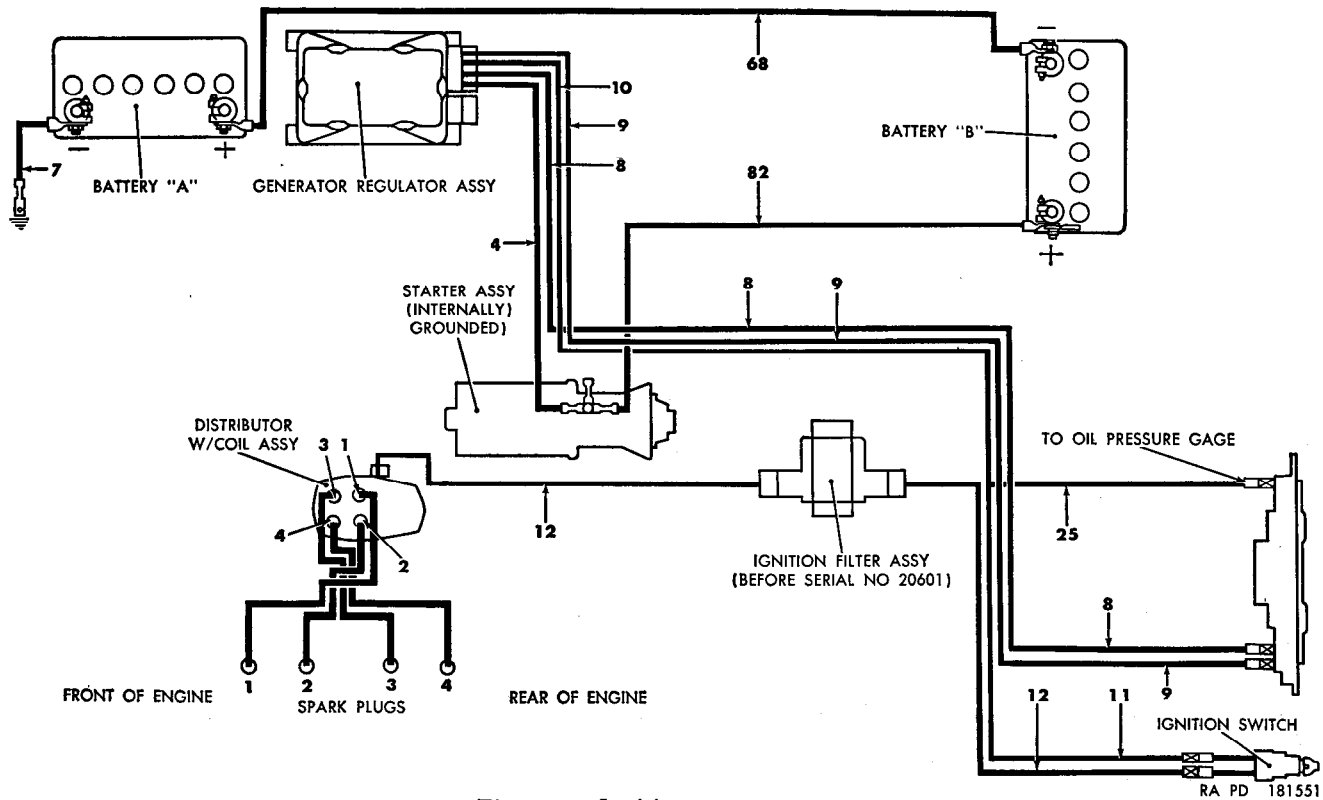
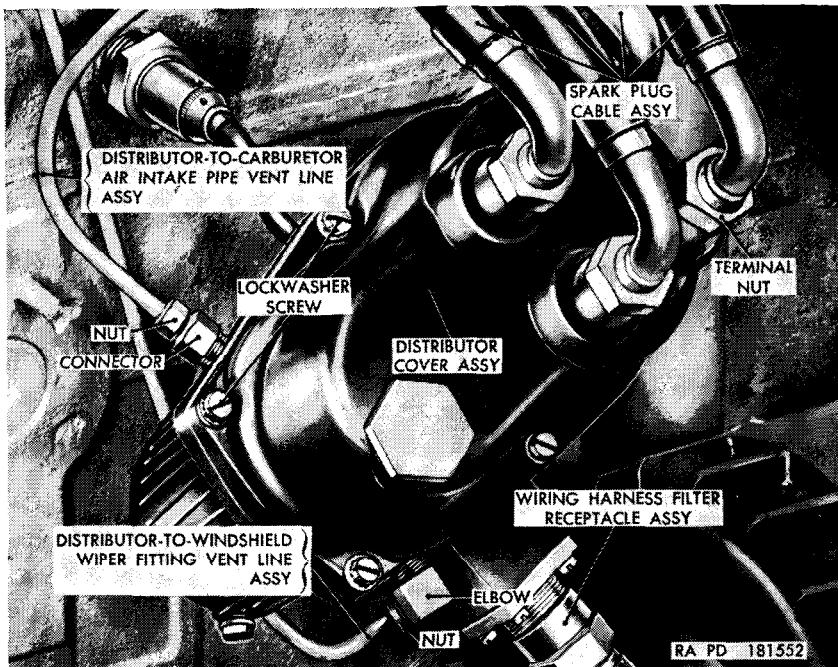
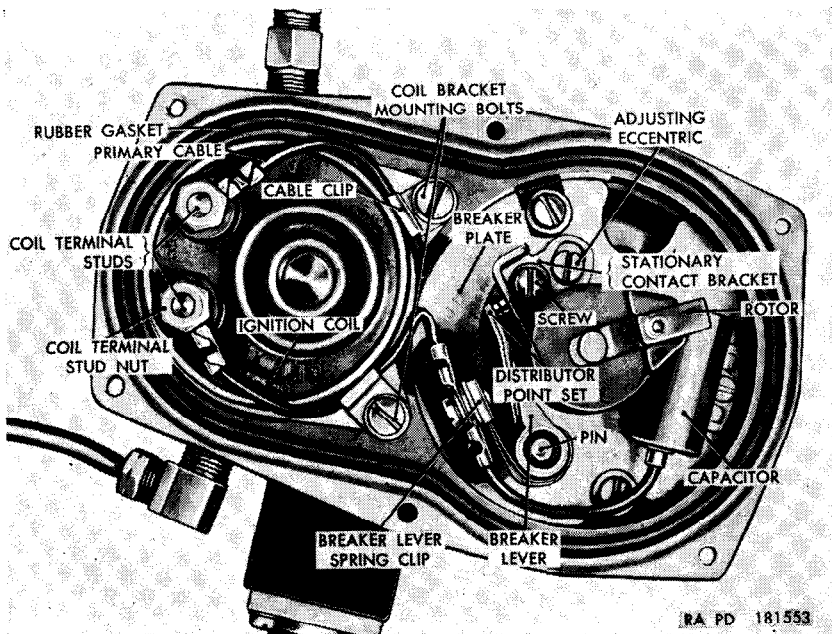
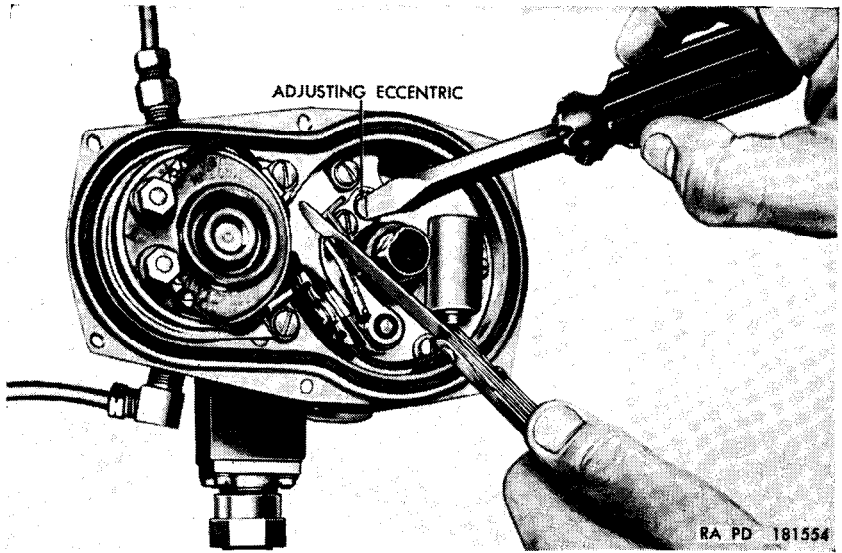

Figure 54. Ignition system circuit.
Figure 55. Distributor with coil assembly—installed.
Figure 56. Distributor with coil assembly—distributor cover and cap assemblies removed.
Figure 57. Adjusting distributor point set.
- (1) *General.* The ignition system (fig. 54) consists of the batteries, ignition switch, distributor with coil assembly, spark plugs, and primary and secondary circuit cables. The distributor with coil assembly supplies high voltage current to the spark plugs at timed intervals. The entire system is shielded for radio interference suppression and is completely waterproofed.
- (2) *Distributor with coil assembly* (fig. 55). The distributor, capacitor, and ignition coil comprise a single unit with automatic spark advance built-in to vary the ignition timing for most efficient operation. The assembly is located on the right side of the engine and is driven from the camshaft.
- (3) *Spark plugs.* The 14-mm spark plugs are shielded and waterproof, with built-in resistors for radio interference suppression.
- (4) *Spark plug cable assemblies* (fig. 55). The spark plug cable assemblies are fully shielded and waterproof, with threaded connectors on each end.
- (5) *Circuits* (fig. 54). There are two distinct circuits in the ignition system, the primary circuit and the secondary circuit. The primary, or low voltage circuit, consists of the batteries, ignition switch, distributor points, capacitor, and the primary winding of the ignition coil. The secondary, or high voltage circuit, consists of the secondary winding of the ignition coil, distributor rotor, distributor cover assembly, distributor cap assembly, spark plug cable assemblies, and spark plugs.
b. Mark the position of No. 1 spark plug cable assembly (fig. 55) on the side of the distributor with coil assembly, to aid in determining the position of the distributor rotor after the distributor cover and cap assemblies are removed.
c. Remove six lockwasher screws securing the distributor cover and cap assemblies (fig. 55) and remove the assemblies. Turn the crankshaft until the distributor points are open, with the breaker lever (fig. 56) on one of the four high points of the cam. Loosen the screw securing the stationary contact bracket to the breaker plate. Adjust the point gap by turning the adjusting eccentric (fig. 57) until a 0.020-inch feeler gage will enter between the points with a slight drag on the gage. Tighten the screw securing the stationary contact bracket to the breaker plate and again check the point gap.
d. On early production vehicles, turn the crankshaft with a crank, or suitable socket wrench, until the distributor rotor points to the mark (*b* above) and the timing mark "5 BTC" on the flywheel is alined with the pointer in the timing hole in the flywheel housing. On late production vehicles, aline the hole in the back of the fan and generator drive pulley (fig. 57) with the "5" mark on the timing gear cover (fig. 57).
f. Be sure that the rubber gasket (fig. 56) is seated in its groove. Position the distributor cover and cap assemblies over the gasket and secure with six No. 10 x  $1\frac{1}{16}$  lockwasher screws (fig. 55).
- (1) *Removal.* Remove the six lockwasher screws (fig. 55) securing the distributor cover and cap assemblies and remove the assemblies. Remove the three screws and lockwashers holding the distributor cap assembly to the distributor cover assembly and remove the cap. Do not lose the four cap sealing washers between the cover and cap assemblies.
- (2) *Installation.* Install the four cap sealing washers on the four projections on the top of the cap assembly. Position cap assembly inside the cover assembly and secure in place with three No. 8-32 x 1 screws and internal-teeth lockwashers. Install the distributor cover and cap assemblies on the distributor (par. 142f).
**b. Distributor Point Set (fig. 56).**
- (1) *Removal.* Remove six lockwasher screws (fig. 55) securing the distributor cover and cap assemblies and remove the assemblies. Loosen the screw securing the breaker lever spring clip and slide the breaker lever spring up and out of the clip. Lift the breaker lever up and off the pin. Remove the screw securing the stationary contact bracket and remove the bracket.
- (2) *Installation.* Place the stationary contact bracket over the pin in the breaker plate, and over the adjusting eccentric. Install the No. 8 x  $\frac{3}{16}$  screw securing the bracket to the plate, but do not tighten. Place the breaker lever onto the pin on the breaker plate and position the slot in the breaker lever spring over the screw, inside the breaker lever spring clip. Push the breaker lever onto the pin as far as it will go and tighten the screw securing the clip, making sure that the spring and terminals are alined.
*c. Capacitor (fig. 56).*
- (1) *Removal.* Remove the six lockwasher screws (fig. 55), and remove the distributor cover and cap assemblies. Loosen the screw securing the breaker lever spring clip, and lift the capacitor cable terminal from the screw. Remove the screw securing the capacitor to the breaker plate and remove the capacitor.
- (2) *Installation.* Position the capacitor on the breaker plate and secure it with one No. 6 x  $\frac{3}{16}$  screw. Place the capacitor cable terminal on the screw securing the breaker lever spring clip and tighten the screw. Install the distributor cover and cap assemblies (par. 142f).
*d. Rotor (fig. 56).*
- (1) *Removal.* Remove the six lockwasher screws (fig. 55), and remove the distributor cover and cap assemblies. Lift the rotor up and off the cam.
- (2) *Installation.* Place the rotor on top of the cam, with the flat spot in the bore of the rotor alined with the flat spot on the cam. Press the rotor into place by hand. Do not hammer on top of the rotor. Install the distributor cover and cap assemblies (par. 142f).
*e. Ignition Filter Assembly (fig. 54).*
- (1) *Removal.* In vehicles before serial No. 20601, unscrew the nuts securing the cables to the connectors on both ends of the ignition filter assembly. Remove four screws and lockwashers securing the filter assembly and remove the assembly.
- (2) *Installation.* Place the ignition filter assembly in position (on the fire wall below the air cleaner assembly), and secure with four screws and lockwashers. Screw the cables onto the connectors on the filter assembly.
- (1) *Removal.* In vehicles after serial No. 20601, unscrew and remove the six lockwasher screws (fig. 53) securing the distributor cover assembly to the distributor housing and remove the assembly. Loosen the nut (fig. 56) on the positive terminal of the ignition coil and remove nut, washer, and terminal of ignition coil primary cable.
Loosen the coil bracket mounting bolt securing the cable clip, for the primary cable, to the coil mounting bracket and remove bolt, lockwasher, and clip. Unscrew the nut (T, fig. 33) securing the primary cable to the wiring harness filter receptacle, and pull the cable from the receptacle. Remove the four lockwasher screws securing the wiring harness filter receptacle (fig. 55) to the distributor housing. Pull the receptacle assembly from the distributor housing, and separate the capacitor from the receptacle.
*a. Removal.* Remove the six lockwasher screws (fig. 55) and remove the cover and cap assemblies. Remove the two coil terminal stud nuts, and lift the terminals from the studs. Remove the coil bracket mounting bolts and two cable clips. Lift the coil straight out and remove.
*b. Installation.* Slide the coil into position, with terminals spaced as shown in figure 56. Place the cable terminals on the coil terminal studs. Arrange the cables as shown in figure 56 and secure each terminal with a No. 10 coil terminal stud nut and lockwasher. Place the cable clips in position to hold cables. Install one No. 10 x  $\frac{7}{16}$  coil bracket mounting bolt, through each cable clip and hole in the coil bracket and into the hole in the distributor base. Install the distributor cover and cap assemblies (par. 142f).
- (1) *Removal.* Mark the spark plug cable assemblies for identification. Unscrew the terminal nuts (fig. 55) and disconnect the cables from the distributor cover assembly. Unscrew the terminal nuts and disconnect the cables from the spark plugs, and remove the cables.
- (2) *Installation.* Place the spark plug cable assemblies in position, with the long cable for No. 1 cylinder. Start the terminal nuts onto the threads on the spark plugs, but do not tighten until the cables are alined. Start the terminal nuts onto the threads on the distributor cover assembly (fig. 55), making certain that the correct firing order is maintained. Aline the cables at the distributor cover and spark plugs, to avoid kinks or sharp bends. Tighten the terminal nuts on both ends of the cables.
(fig. 55)